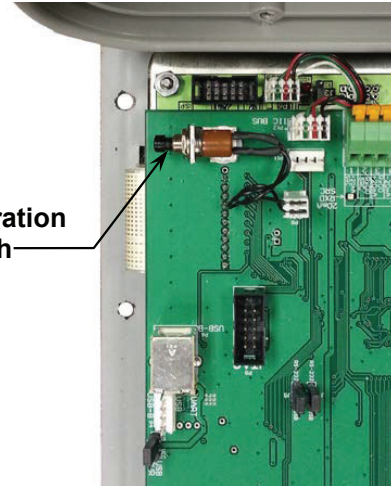

Figure No. 18
The calibration switch is located on a bracket on the inside of the enclosure front panel. You may gain access to this switch simply by removing the 12 access screws on the front panel. Refer to Figure No. 18.
4. Press and release the calibration switch. Refer to Figure No. 18 for the location of the calibration switch.